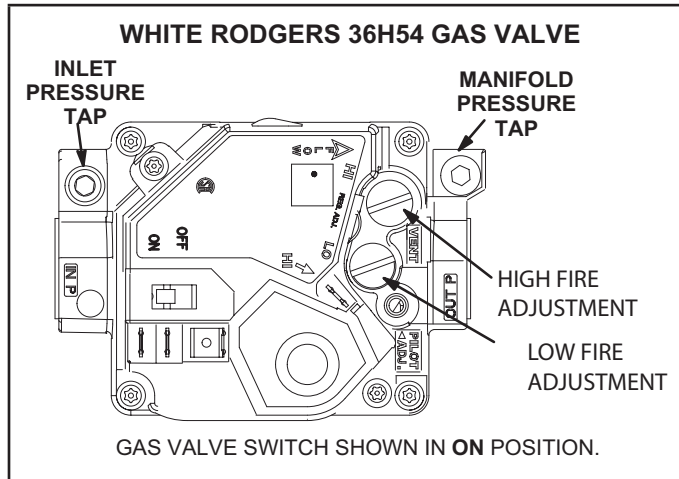
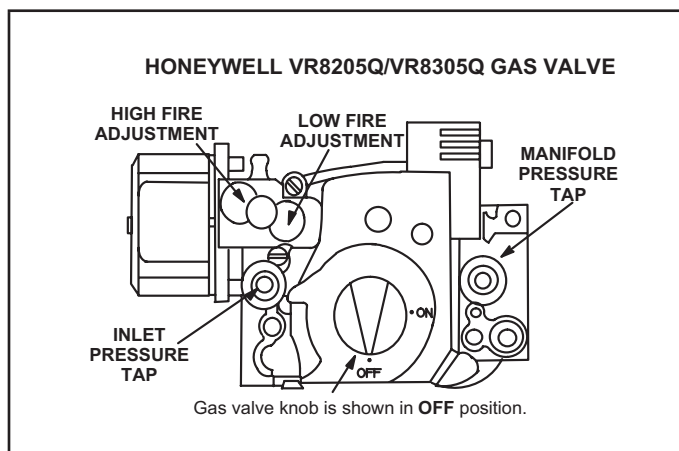

FIGURE 25
FIGURE 26
Gas Valve Operation FIGURE 25 and FIGURE 26
- 5 - Turn gas valve switch to OFF. See FIGURE 25. On Honeywell VR8305Q gas valves, turn the knob on the gas valve clockwise to "OFF". Do not force. See FIGURE 26.
- 6 - Wait five (5) minutes to clear out any gas. If you then smell gas, **STOP!** Immediately call your gas supplier from a neighbor's phone. Follow the gas supplier's instructions. If you do not smell gas, go to the next step.
- 7 - Turn gas valve switch to ON. See FIGURE 25. On Honeywell VR8305Q gas valves, turn the knob on the gas valve counter clockwise to "ON". Do not force. See FIGURE 26.
- 4 - Turn gas valve switch to OFF. See FIGURE 25. On Honeywell VR8305Q gas valves, turn the knob on the gas valve clockwise to "OFF". Do not force. See FIGURE 26.